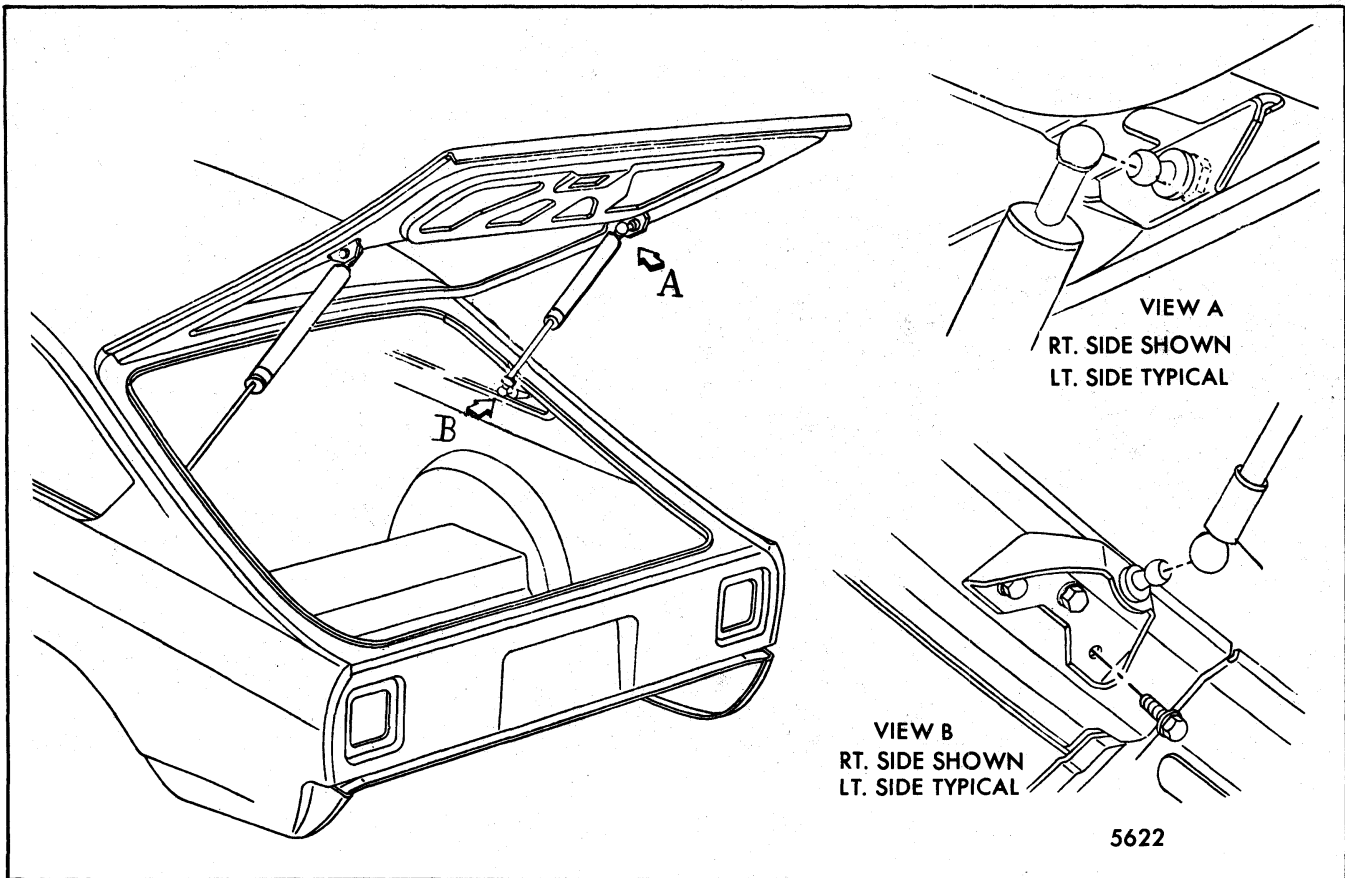

Fig. 7-7-Hatchback Lid Support Assembly Attachment - "H-77" Shown, "H-07" and "X-17" Similar
Opening assist is performed by tubular gas-operated compartment lid support assemblies mounted at each side of the lid and attached to the body. The lid up-stop is incorporated within the support assembly (Fig. 7-7).
2. Remove lid and body side retaining clips (using scratch awl or similar tool) from ends of gas-operated support assemblies (Figs. 7-7 and 7-8).